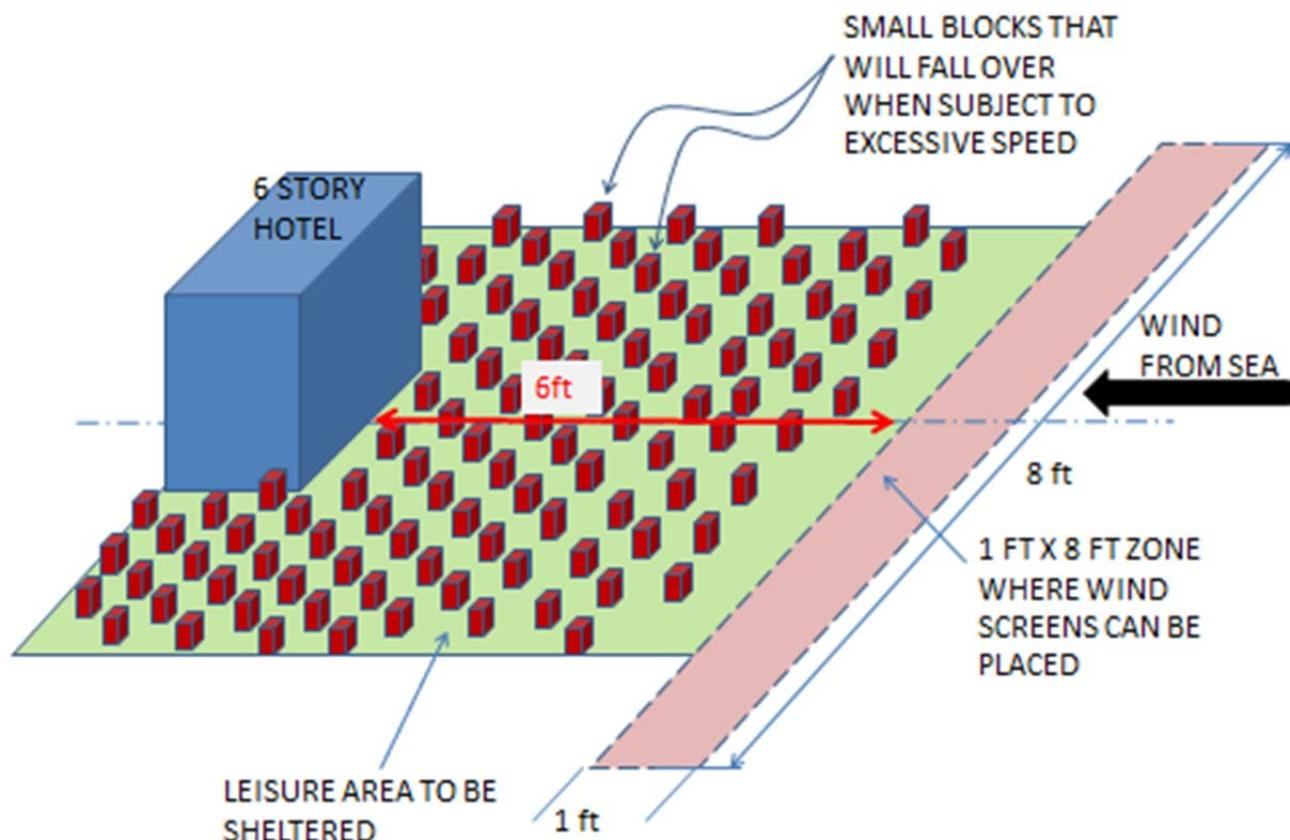

Figure 1. Scale model of beachfront hotel with area for wind mitigation.
1.1 The objective for the 2015 WOW Challenge is to design a wind mitigation barrier that will provide the best wind mitigation for a Miami Beach hotel property. Imagine a six-story hotel situated along the beach, and between the hotel and the beach is an area that hotel management wants to be protected from wind off the Atlantic Ocean. Theoretically, this area could include a pool and or restaurant seating area. Figure 1 illustrates the Challenge scaled down by about a factor of 25.
- 2.2 The wind mitigation barrier can be no more than 9 inches high and multiple barriers (e.g. one behind the other or overlapping) are permitted just so long as they remain within the 1 ft. by 8 ft. area shown in Figure 1. The wind mitigation barriers can be straight or curved, porous or solid.